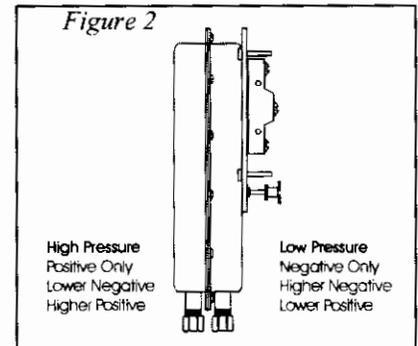

Figure 2
AIR SAMPLING CONNECTION (FIGURE 2)
Refer to **Figure 2** to identify the **high pressure inlet (H)** and the **low pressure inlet (L)**. Select one of the five application options listed below, and connect the sample lines as recommended.